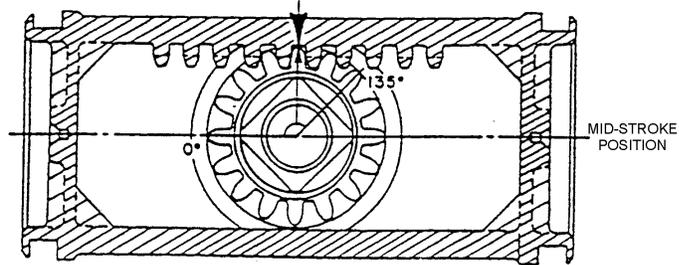

FIGURE 1B
- 10.8.2 Figures 1B & 1C 301 - 135/180° degree Actuator
Coat all of the torque plug gear teeth with lubricant except for one tooth that corresponds with one of the corners on top of the torque plug. Figures 1B and 1C show corners of stem are on centerline of actuator.